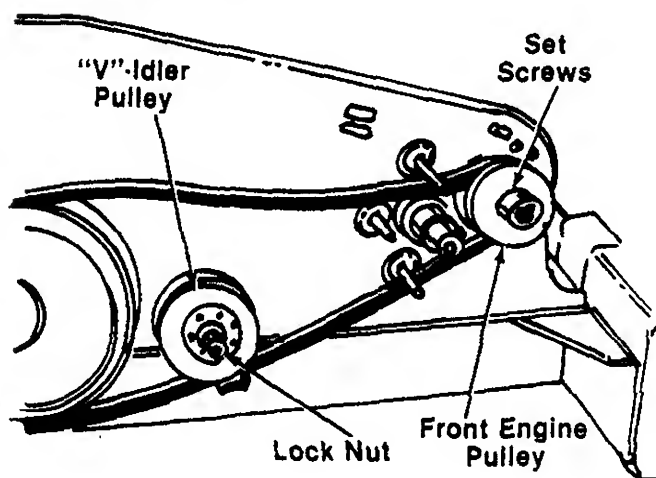

FIGURE 22.
3. Loosen the two set screws on the front engine pulley. See figure 22.
4. Remove the lock nut on the "V"-idler pulley. See figure 22.